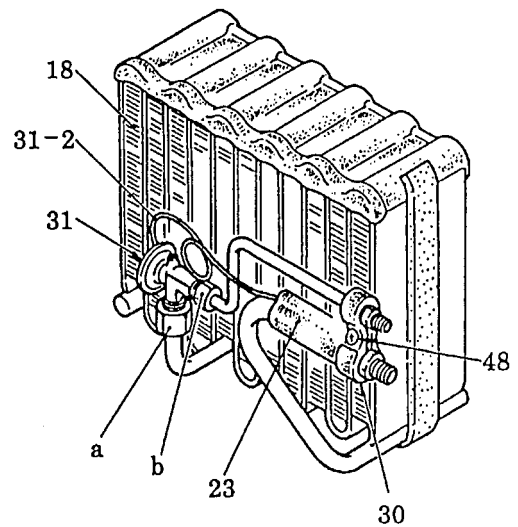

Fig. 15 Replacing expansion valve
4.4 Replacing Evaporator and Expansion Valve (See Fig. 15 and 16.)
- 1) Remove the casing upper of the air-conditioner unit according to para. 4.2 (2).
- 2) Dismantle the assembly of evaporator (46) and expansion valve (31) from the casing, as shown in Fig. 15.